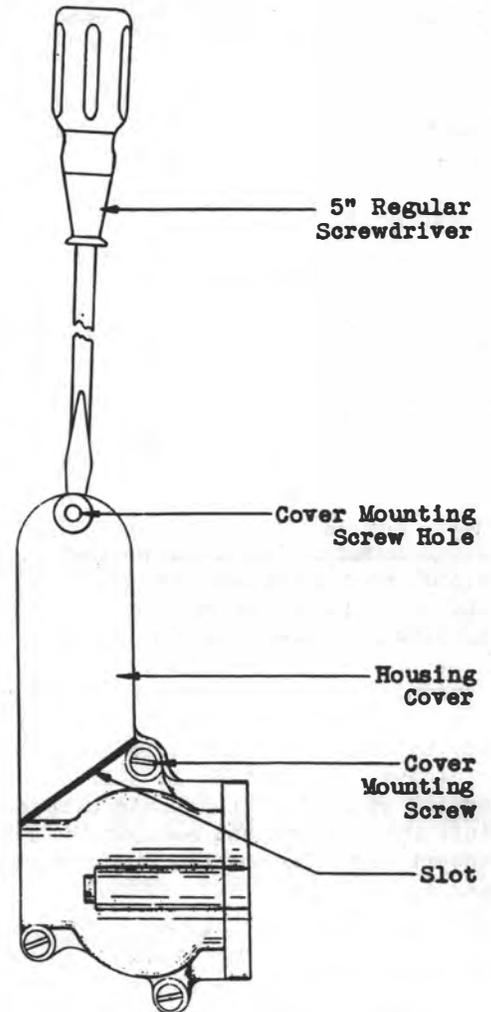

Fig. 76A - Illustrating Splitting of Alarm Housing Cover
3.16 Splitting Housing Cover When Mounted on Drive: Starting at the long side of the housing cover, scribe a line across the cover, 60° with the long side, to a point just above the boss for the mounting screw on the short side of the cover. Saw the cover along this line with a hack saw to a depth of approximately 1/16" deep. Do not saw the cover all the way through. Remove the cover mounting screw at the top with the 4" regular screwdriver and insert the blade of a 5" regular screwdriver between the cover and the housing at a point directly to the rear of the top screw hole. With the screwdriver in this position as shown in Fig. 76A, force the cover from the housing until the cover snaps off at the sawed slot.